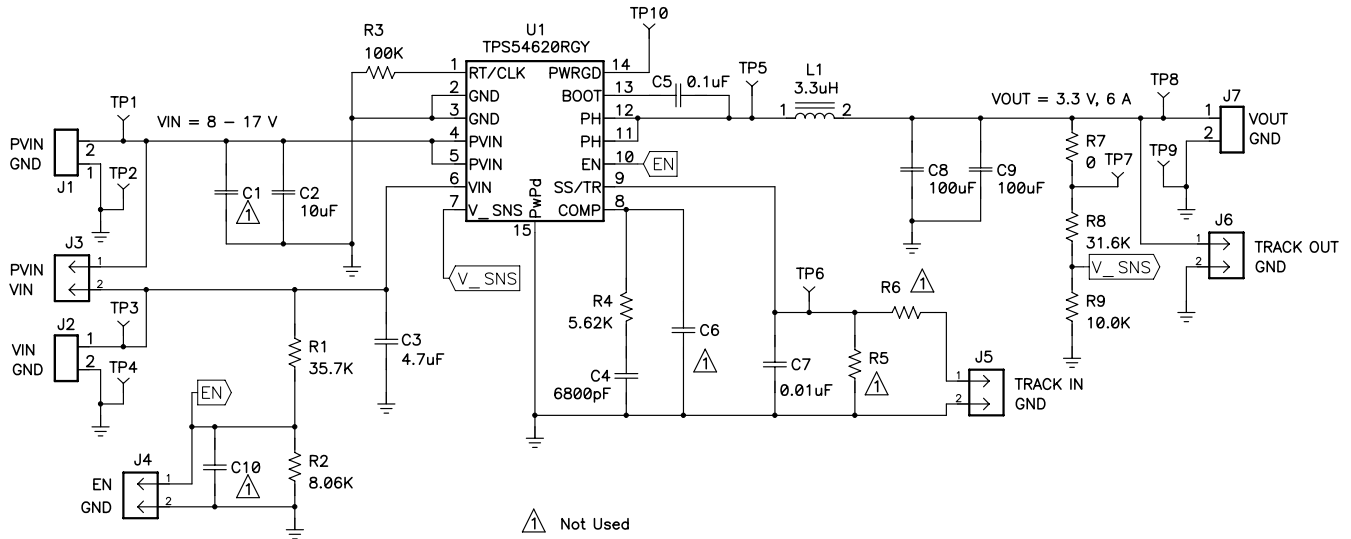

Figure 4-1. TPS54620EVM-374 Schematic
Figure 4-1 is the schematic for the TPS54620EVM-374.
- Replaced Figure 4-1 18